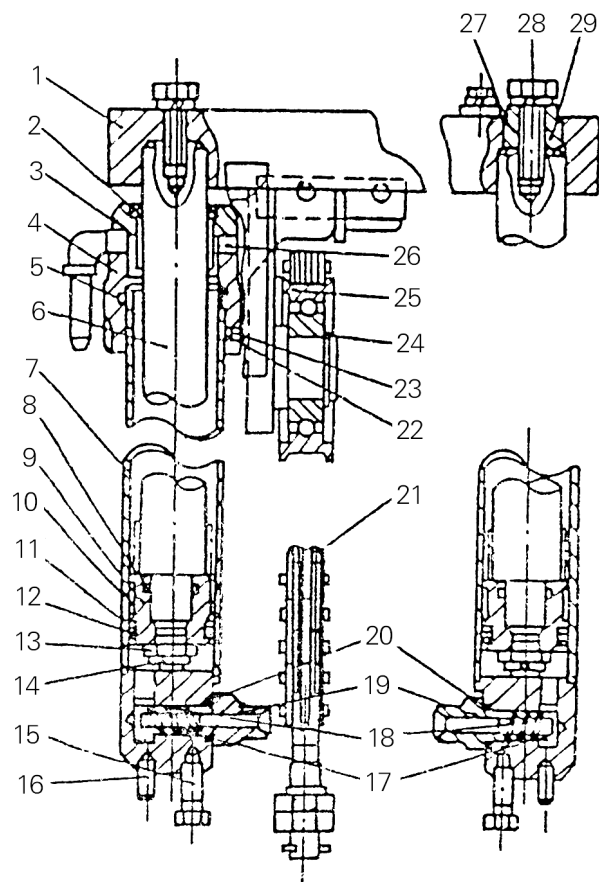

Fig.9-8 Lift cylinder
9.5 Lift Cylinder(See Fig.9-8)
channels and the bottoms of the cylinders are connected with the cylinder supporter of the outer mast by bolts and pins, while their tops (i.e. piston rod heads) are held by the inner mast piston head guide. Two piston rods should be synchronous during the lifting or lowering. Readjusting the strokes of two pistons or article 28& 29 shown in Fig.9-8 should be done, if they are not so.